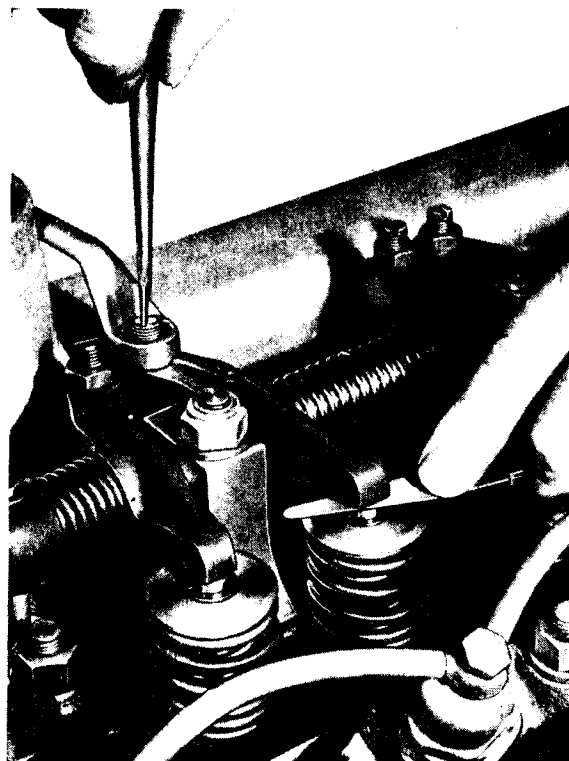

Fig. E.15. Adjusting Valve Clearance.
3. Reset the valve clearance to 0.012 in (0,30 mm) cold (Fig. E.15). Fit the rocker cover.